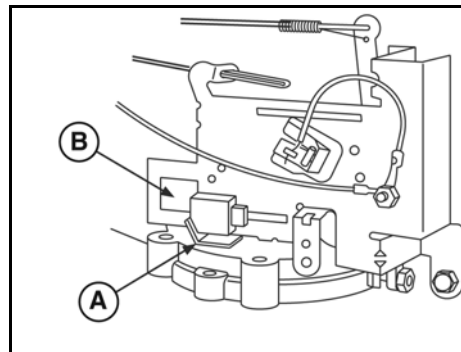

Figure 38
5. Set control to 1750 RPM and bend tang (A, Figure 38) until it contacts remote control slide (B).